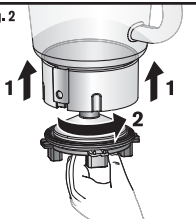

fig. 3
- Place the blender jug assembly **(E)** on the motor unit **(A)**. The blender jug can be placed in two positions: jug handle to the right or the left of the motor unit **(Fig. 3)**.